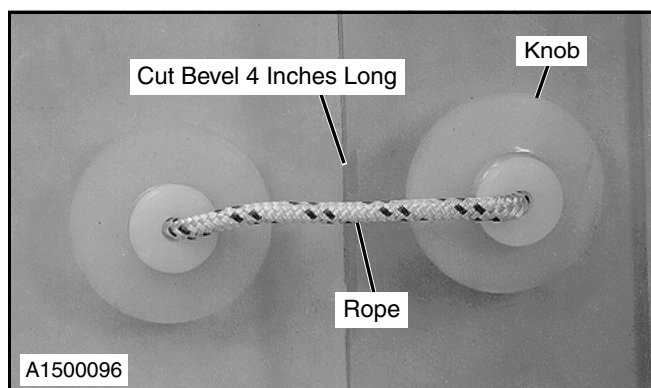

Figure 30
14. Cut a slight bevel, about 4 inches long, on the edge of the Puralon panel where the nylon rope contacts the Puralon. (Figure 30 shows a complete assembly.)